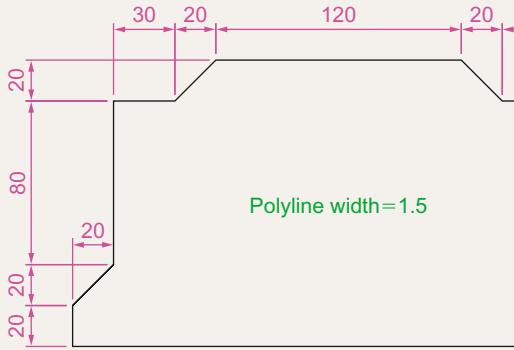

Fig. 2.34 Exercise 7
7. Using the Polyline tool, construct the outline given in Fig. 2.34.